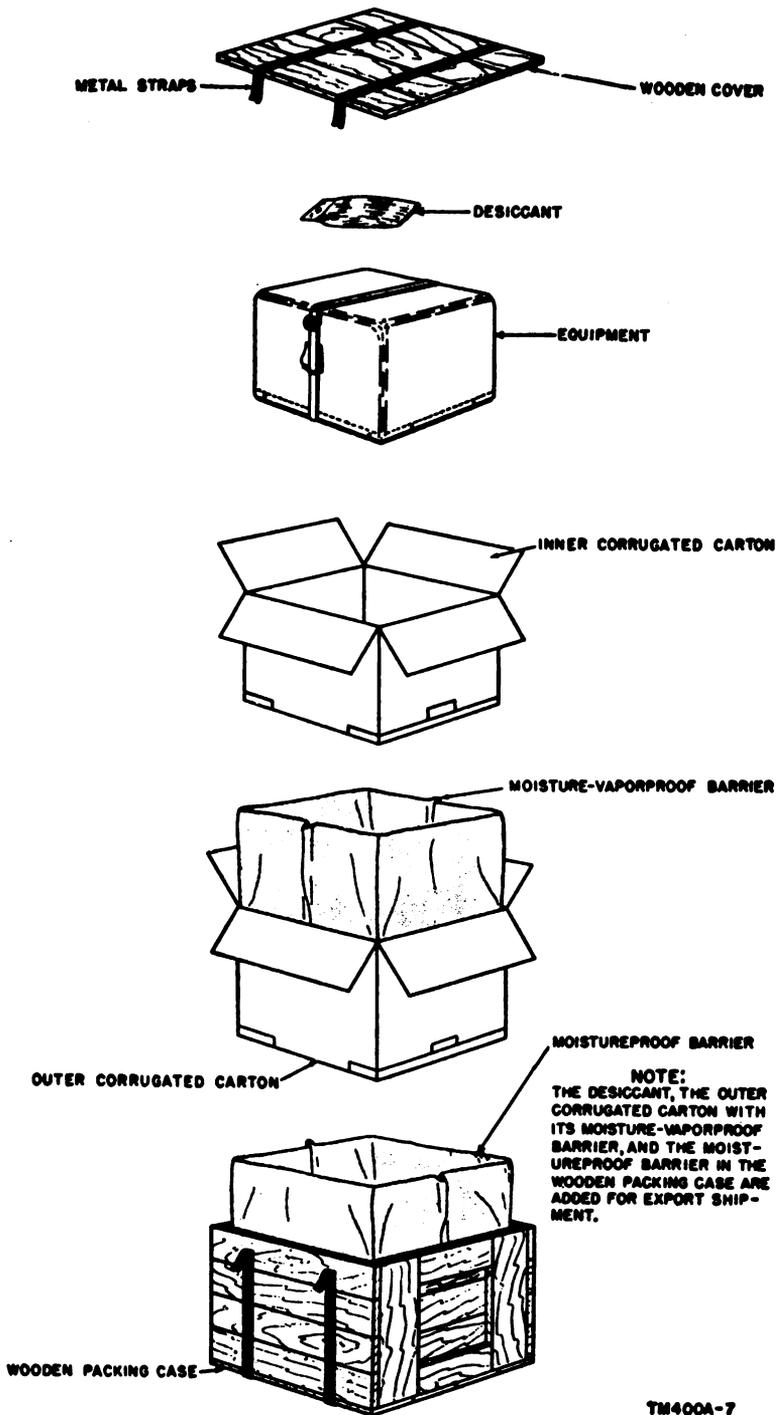

Figure 7. Packaging and packing diagram.
- (3) The carrying case is placed within a close-fitting corrugated fiberboard carton and sealed with gummed tape (fig. 7).
- (4) The packaged case is placed within a nailed wooden shipping container which is bound with metal straps (fig. 7).
- (1) For export shipment the equipment is packaged as described in a (1) through (3) above except that a desiccant is placed within the corrugated fiberboard carton before closing and sealing.
- (2) The packaged equipment is then placed within a second corrugated fiberboard carton which is lined with a moisture-vaporproof barrier. This carton is sealed with gummed tape (fig. 7).
- (3) The packaged equipment is then placed in the nailed wooden shipping container which is lined with a moistureproof barrier (fig. 7).
- (4) The lid of the wooden shipping container is nailed on and the container is further strengthened with metal straps (fig. 7).
- (1) Cut the metal straps with a suitable device, or twist them with pliers until the straps break (fig. 7).
- (2) Remove the nails with a nail puller. Prying may damage the equipment.
- (3) Carefully remove the top of the shipping container. Do not damage the wooden container because it may be reused for future repacking, shipment or storage. Avoid thrusting crowbars or other pointed tools into the interior of the shipping container.
- (4) Pull out the fiberboard carton from the shipping case and open the carton.
- (5) Pull out the second fiberboard carton from the first one and open it. Remove the desiccant.